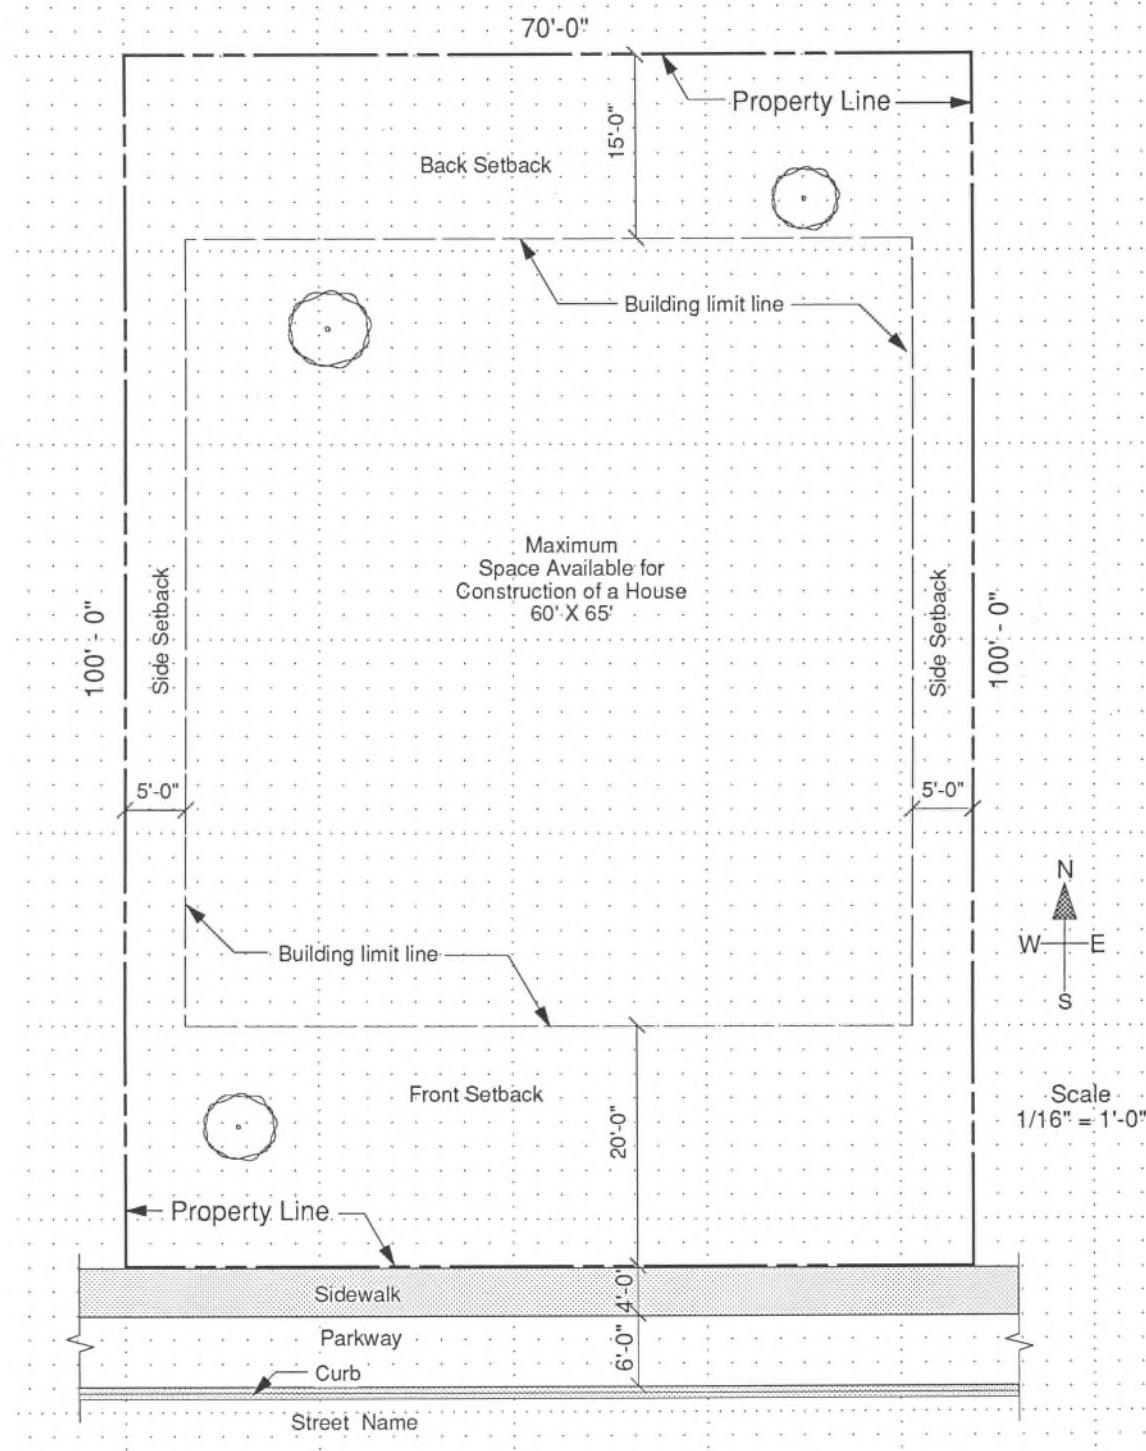

Fig. 26.3 Preparing a plot plan.
1. Draw an arrow to indicate NORTH on the plot plan. Copy its location from the subdivision map. (See Fig. 26.3.)